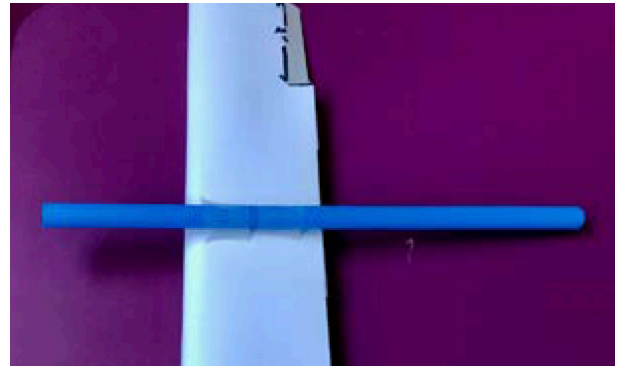

Figure 10: Tape the wing to the straw so the front of the wing is 3 inches back from the end of the straw.
- Tape the straw to the center of the wing so that the leading edge of the wing is about 3.5-4 inches (8.9-10 cm) back from the front of the straw. If you are having difficulty, have someone hold the wing in place on the straw while you affix two or three strips of tape to hold the wing onto the straw firmly. See Figure 10.